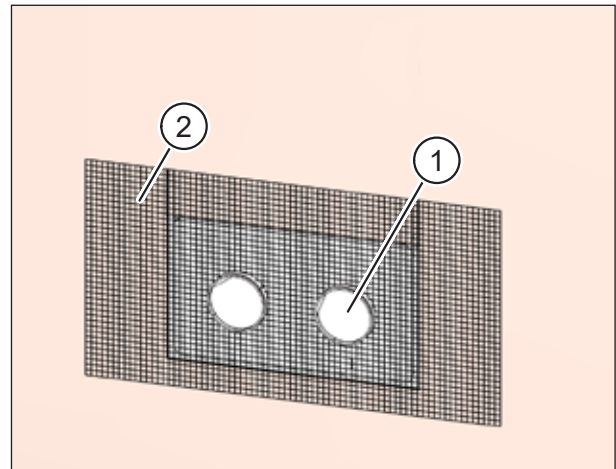
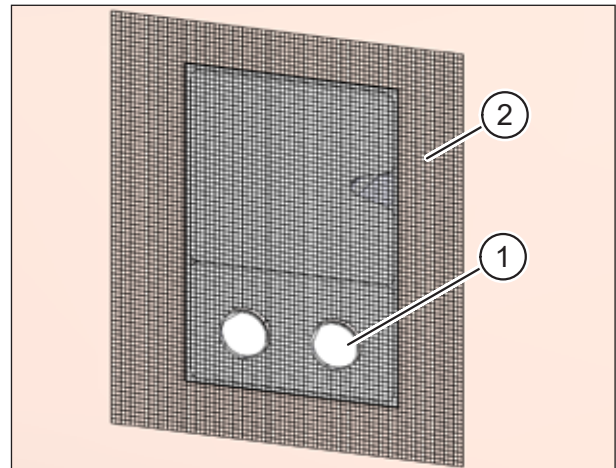

Fig. 37: Plastering the installation kit **without** filler piece
Fig. 38: Plastering the installation kit **with** filler piece
- ▶ Insert the protective sleeves (item 1 in Fig. 37 and Fig. 38). They should extend beyond the solid wall so that they will end flush with the subsequent plaster coat. The protective sleeves provide the bonding surface for the external plaster.
- ▶ Apply the plaster scrim (item 2 in Fig. 37 and Fig. 38) to the outside of the wall box, masonry and/or facade insulation.